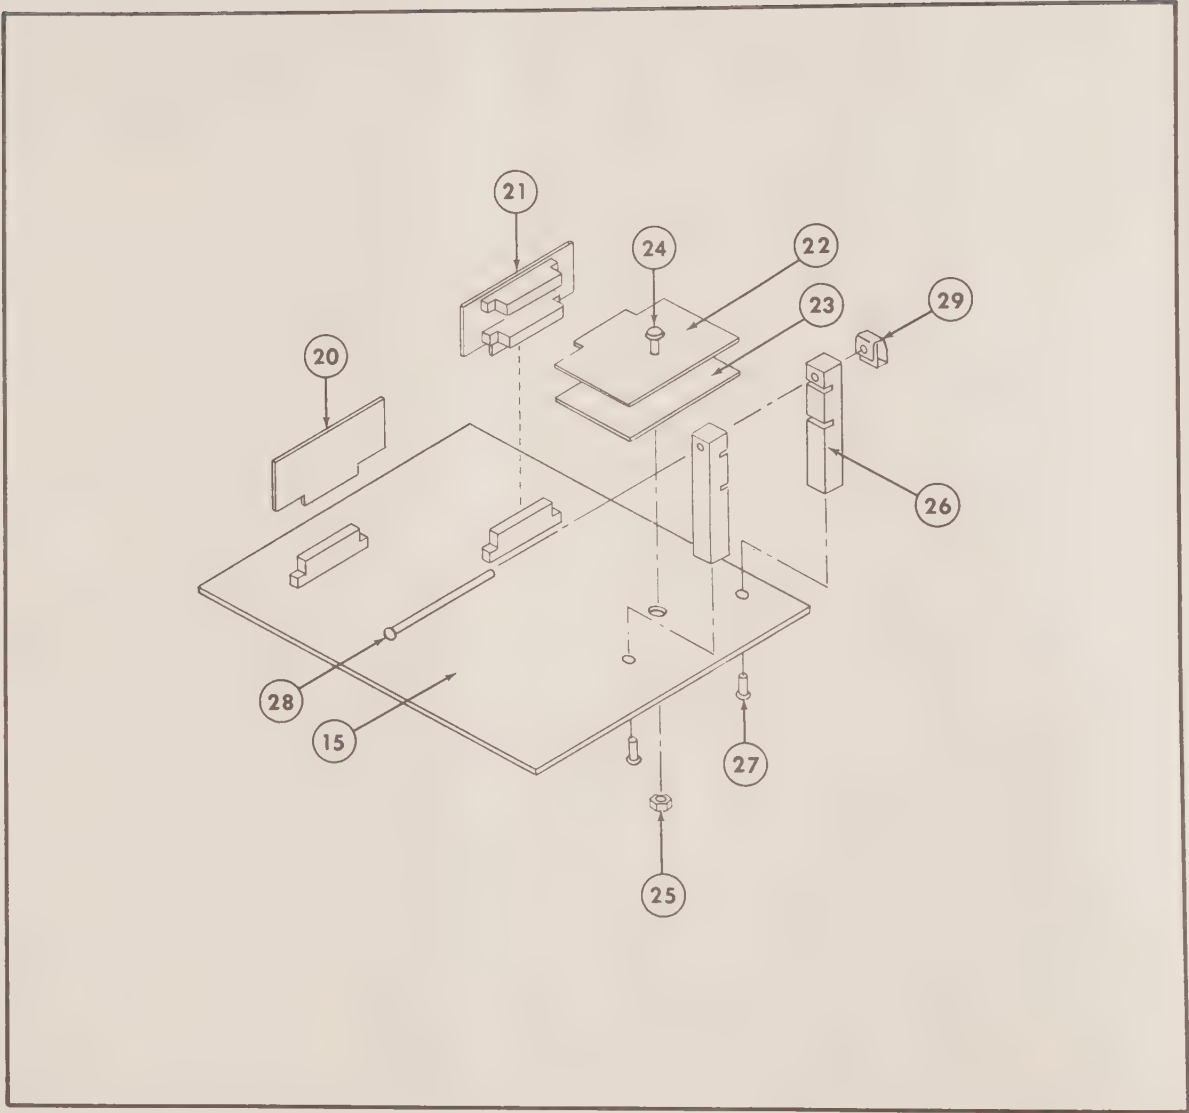

FIGURE 13. PC Board Locations.
c. Printed Circuit Board Installation. The location of all circuit boards is shown in Figure 13. To gain access to circuit boards PC-248, PC-250, and PC-255 the following procedure should be used.
1. Remove the two Phillips head screws from the underside of PC-254 as shown in Figure 13.
3. Remove the long slotted screw and fastener as shown in Figure 13.